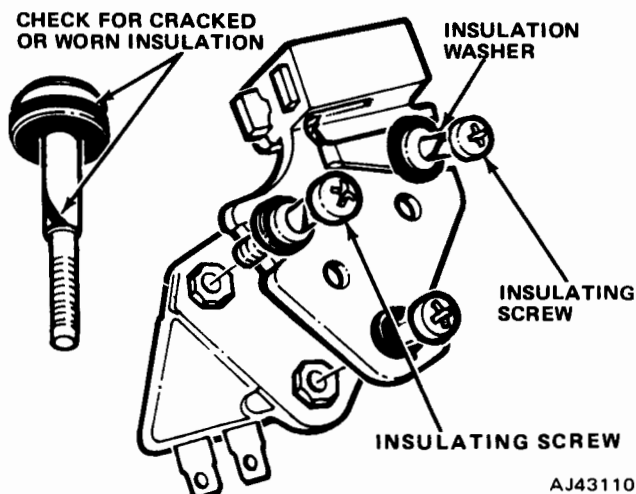

Fig. 3-35 Brush Holders
- (1) Remove two brush holder screws and one diode trio lead strap attaching screw. Note position of all insulator washers for assembly (fig. 3-35).
- (2) Inspect brush holder screws for broken or cracked insulation.
- (3) Remove brush holder and brushes. Carefully note stack-up of parts for assembly.
- (3) Attach brush holder into end frame, noting carefully stack-up of parts (fig. 3-35). Allow wooden or plastic toothpick to protrude through hole in end frame.
- (4) Install diode trio lead strap attaching screw and washer.
- (5) Securely tighten remaining two brush holder screws.